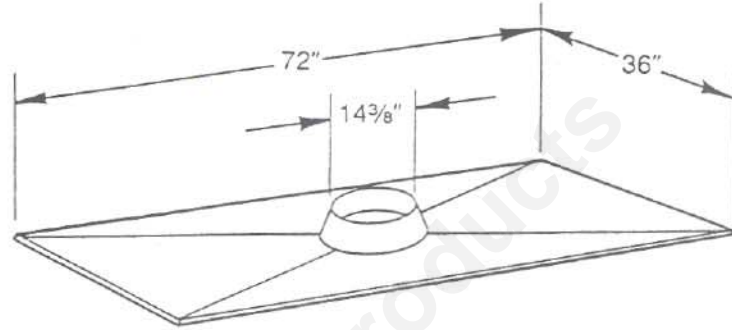

Figure 14
3. Attach chase top to chase. A factory built top, Catalog Number CT56, is available. See Figure 14.